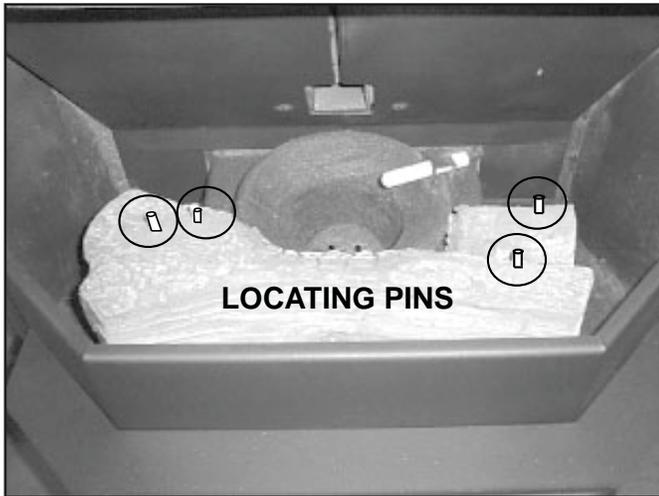

Figure 26.1
1. Place the front log in first as shown in **Figure 26.1** charred area surrounding firepot.